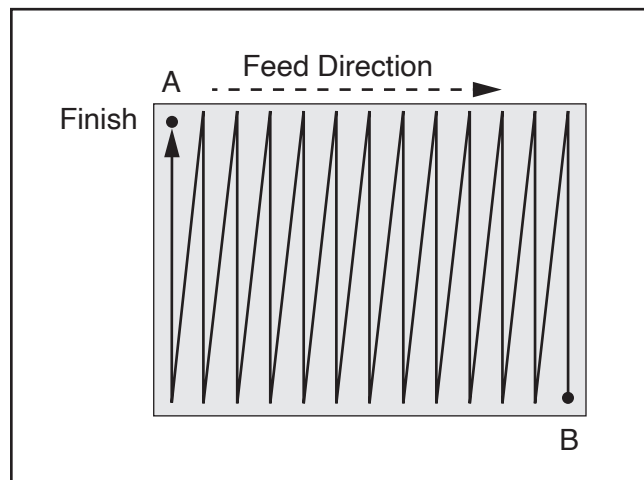

Figure 27. Zigzagging while feeding workpiece to right.
7. When wheels reach point **B**, reverse feed direction (see **Figure 27**) and return to point **A**.